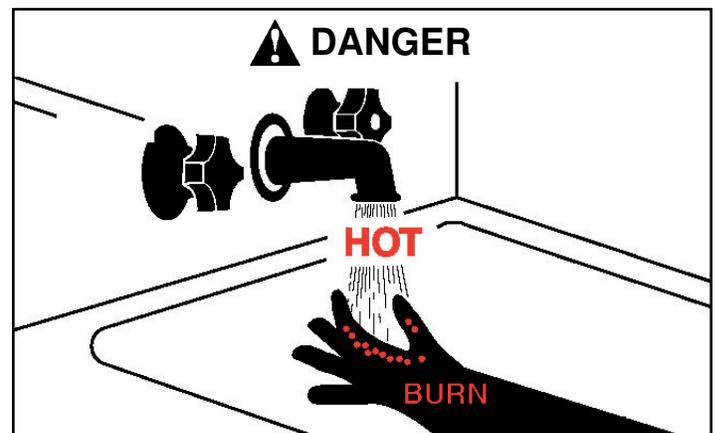

**Figure 4: Wiring Diagram**
2. Connect the circulator pump in series with the thermostat as shown in Figure 4.